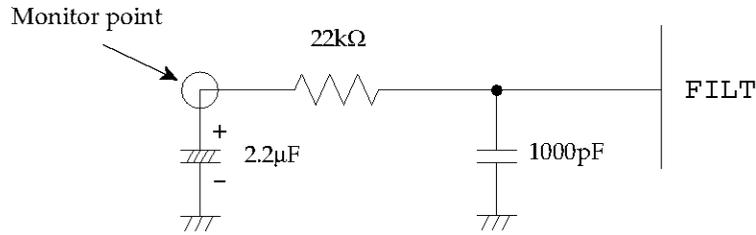

Figure 10 FILT Recommended Circuit
- Adjust the voltage of monitor point in Figure 10 to $1/2V_{\text{DD}} \pm 10\%$ by the LC oscillation constant 'L' or 'C' to lock the PLL circuit.